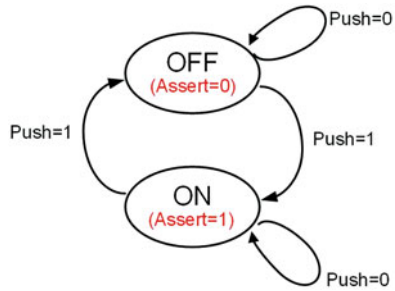

Fig. 2.56
- 2.3.2** For the state diagram in Fig. 2.56, how many D-Flip-Flops will this machine take if the states are encoded in *binary*?
- 2.3.3** For the state diagram in Fig. 2.56, how many D-Flip-Flops will this machine take if the states are encoded in *gray code*?
- 2.3.4** For the state diagram in Fig. 2.56, how many D-Flip-Flops will this machine take if the states are encoded in *one-hot*?
- 2.3.5** For the state diagram in Fig. 2.56, is this a Mealy or Moore machine?
The next set of questions are about the design of a finite state machine by hand to implement the behavior described by the state diagram in Fig. 2.56. For this design, you will name the current state variable Q0_cur and name the next state variable Q0_nxt. You will also use the following state codes:
- 2.3.6** For the state diagram in Fig. 2.56, what is the next state logic expression for Q0_nxt?
- 2.3.7** For the state diagram in Fig. 2.56, what is the output logic expression for Assert?
- 2.3.8** For the state diagram in Fig. 2.56, provide the final logic diagram for this machine.